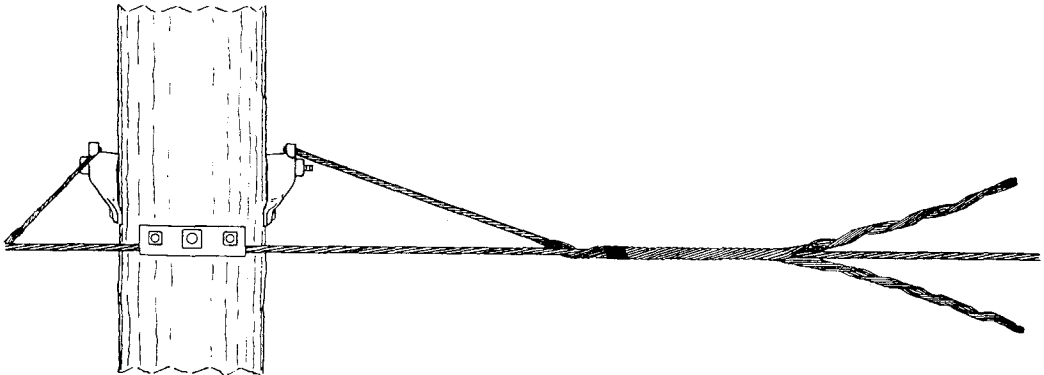

Fig. 11—Applying Second Leg
(2) Apply one half of the second leg in the same manner as the first leg. The application at this point is illustrated in Fig. 11.